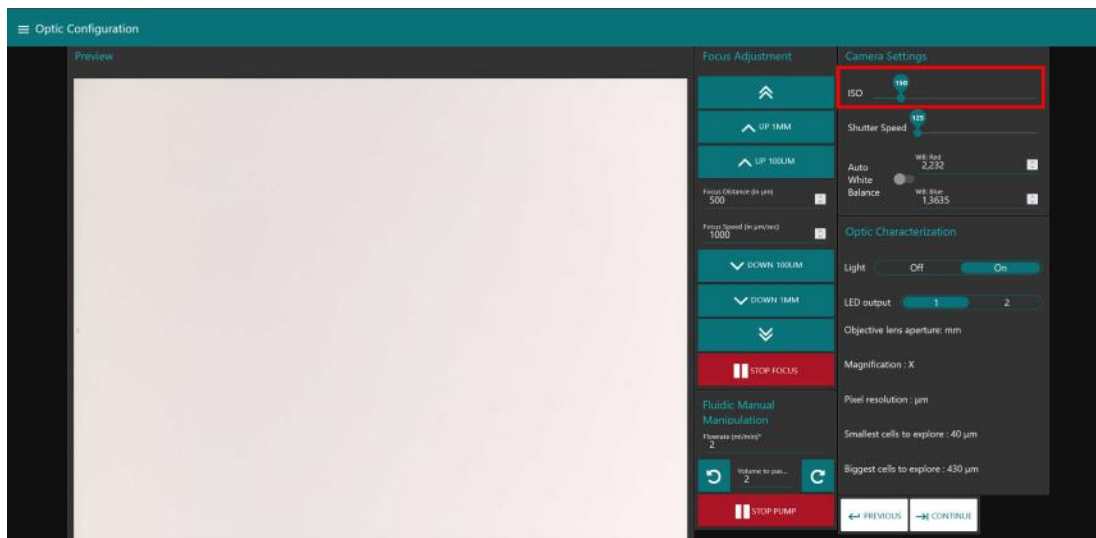

Figure 6: The red box highlights the location of the ISO setting
- Under "Camera Settings", you can see a button to change the ISO value (Fig.6). **Set the ISO to 150.** You should see your Preview image change colour when you adjust this setting. The ISO is the light sensitivity of the camera. A low ISO will be less sensitive to light and then darker. A low ISO tends to provide images of better quality.